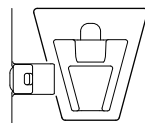
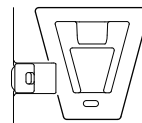

Fig. 3
Fig. 4
- You cannot join the modules together if the V edge of the camera module is down. (Fig. 3) Push down the recording module release lever of the camera module to raise the V edge. (Fig. 4)